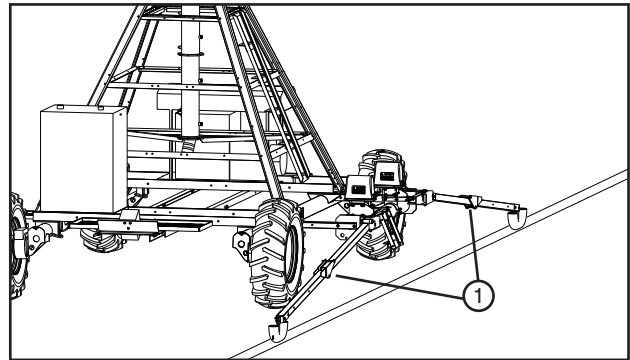

Figure 79-2 1. Furrow Guidance
8. Lower the furrow guidance arms. See Figure 79-2.
2. The Linear design and the field layout for fields that are parallel and, in some instances, perpendicular to one another may require the drive units to cross the water supply hose and the electrical supply line. See Figure 79-2.